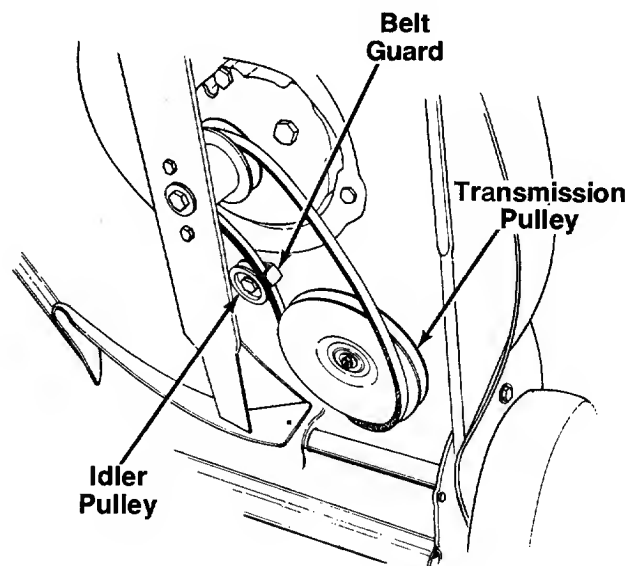

FIGURE 27.
5. Roll the belt off the transmission pulley. Remove the belt from between the idler pulley and belt guard. See figure 27.